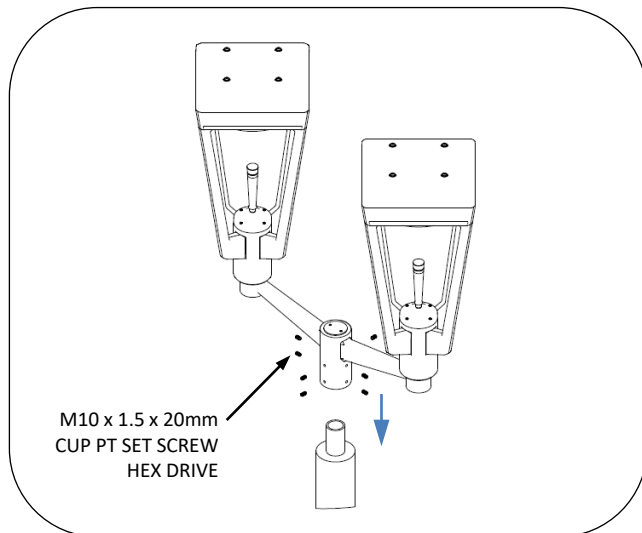

Fig. 4 – Install luminaires on double arm bracket
2. Install double arm bracket on pole. Using 5mm hex key, install and tighten all 8 set screws to secure arm to pole, see Fig. 4. Level as required.